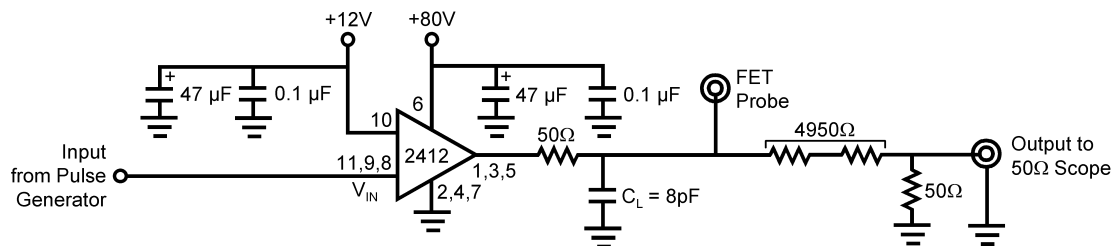
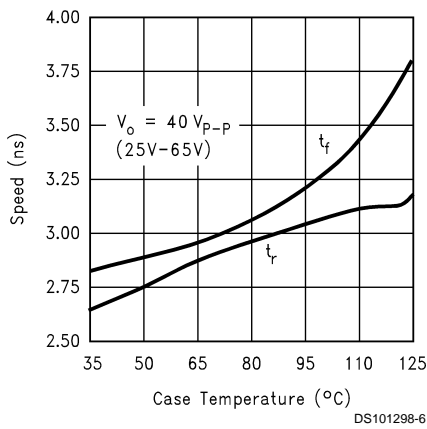

FIGURE 2. Test Circuit (One Channel)
FIGURE 4. Speed vs Temp.
(See Figure 2 for Test Circuit)
Figure 2 shows a typical test circuit for evaluation of the LM2412. This circuit is designed to allow testing of the LM2412 in a 50Ω environment without the use of an expensive FET probe. The combined resistors of 4950Ω at the output form a 200:1 voltage divider when connected to a 50Ω load. The test board supplied by NSC also offers the option to test the LM2412 with a FET probe.  $C_L$  is the total
*Figure 2* shows a typical test circuit for evaluation of the LM2412. Due to the very wide bandwidth of the LM2412, it is highly recommended that the stand alone board supplied by NSC be used for the evaluation of the CRT driver's performance. The 50 $\Omega$  resistor is used to duplicate the required series resistor in the actual application. This resistor would be part of the arc-over protection circuit. The input signal from the generator is AC coupled to the input of the CRT driver.
*Figure 4* shows the performance of the LM2412 in the test circuit shown in *Figure 2* as a function of case temperature. *Figure 4* shows that both the rise and fall times of the LM2412 become slightly longer as the case temperature increases from 40°C to 125°C. In addition to exceeding the safe operating temperature, the rise and fall times will typically exceed 3 nsec. Please note that the LM2412 is **never to be operated over a case temperature of 100°C**. In addition to exceeding the safe operating temperature, the rise and fall times will typically exceed 3 nsec.